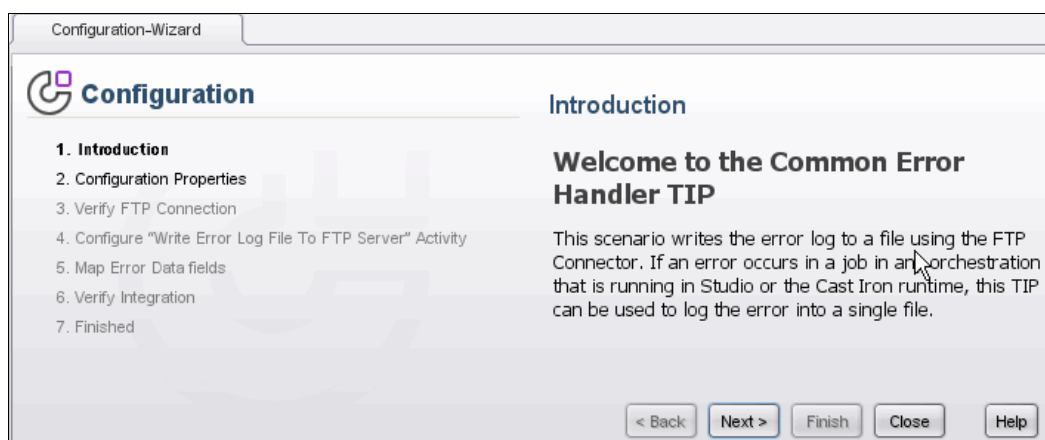

Figure 7-25 Configuration Wizard Introduction step
2. The Introduction step gives a brief overview of the integration scenario, as shown in Figure 7-25. Click **Next**.